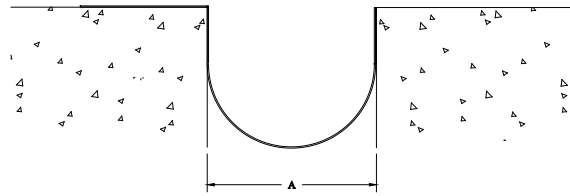

Figure 5
STEP 5. Press the edge of the water barrier onto the double-sided tape so that it is secured to the assembly and so that the edge of the membrane is flush with the surface of the assembly, see Figure 5.